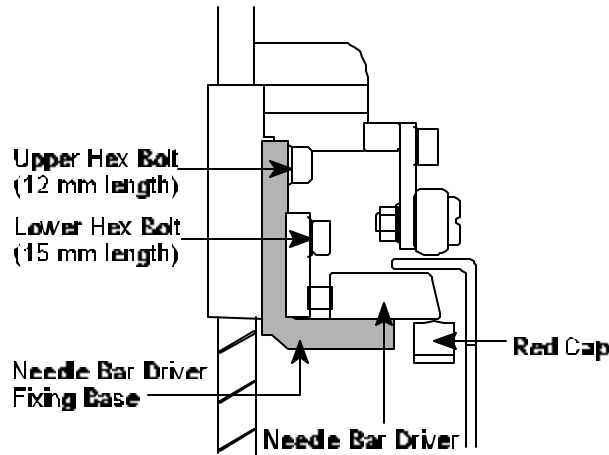

Figure 9
22. **Using** a 3 mm Allen Wrench, **install** Allen Screw (12 mm in length) into upper hole. (Do not tighten completely). See Figure 9.
23. **Using** a 3 mm Allen Wrench, **install** Allen Screw (15 mm in length) into lower hole. (Do not tighten completely). See Figure 9.